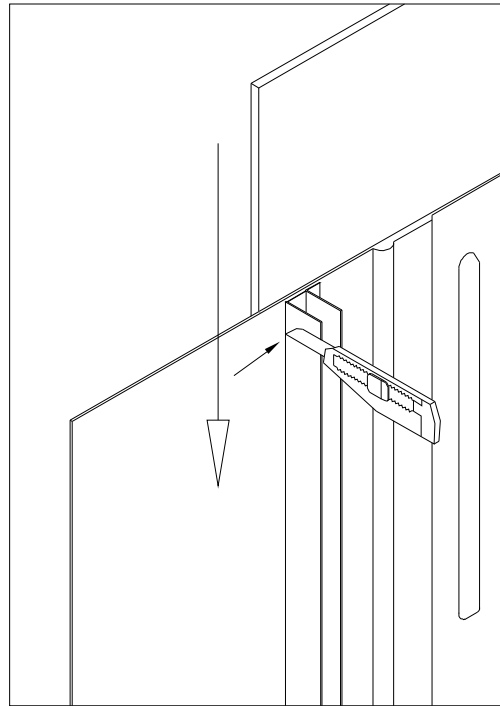
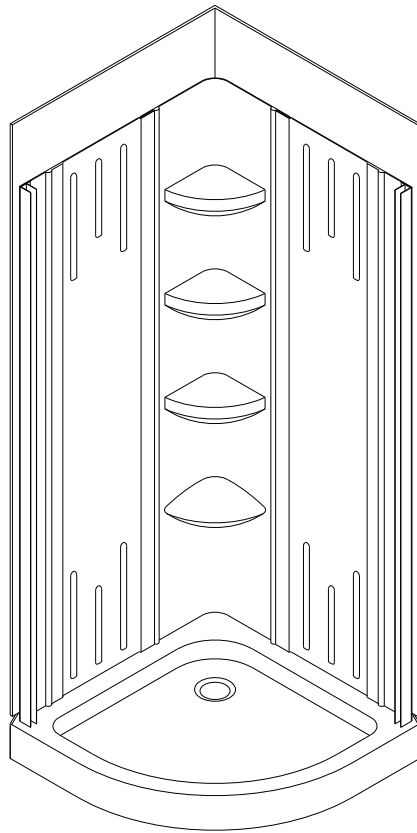

Fig 12
Fig 13
10. Using knife trim the excess of the acrylic panels. See Fig 12 and Fig 13 for details.